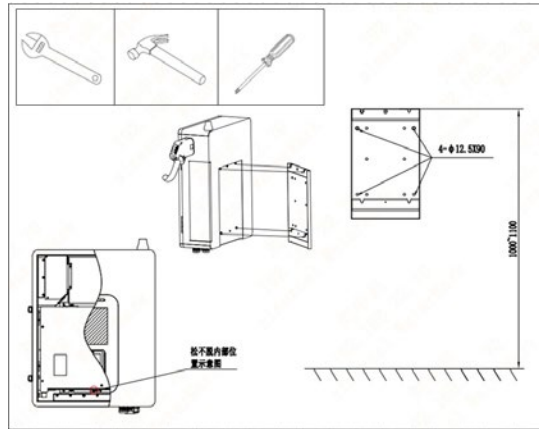

Figure 3.4.2.1-C Wall-mounted diagram
Step 3: Connect the Ethernet cable as shown in the figure. Unscrew the waterproof connector and insert the Ethernet cable through the middle inlet hole, and plug it into the WAN port of the router. Finally, tighten the waterproof connector with the monkey wrench to ensure that the cable cannot be pulled out. Please refer to **Figure 3.4.2.1-D**.